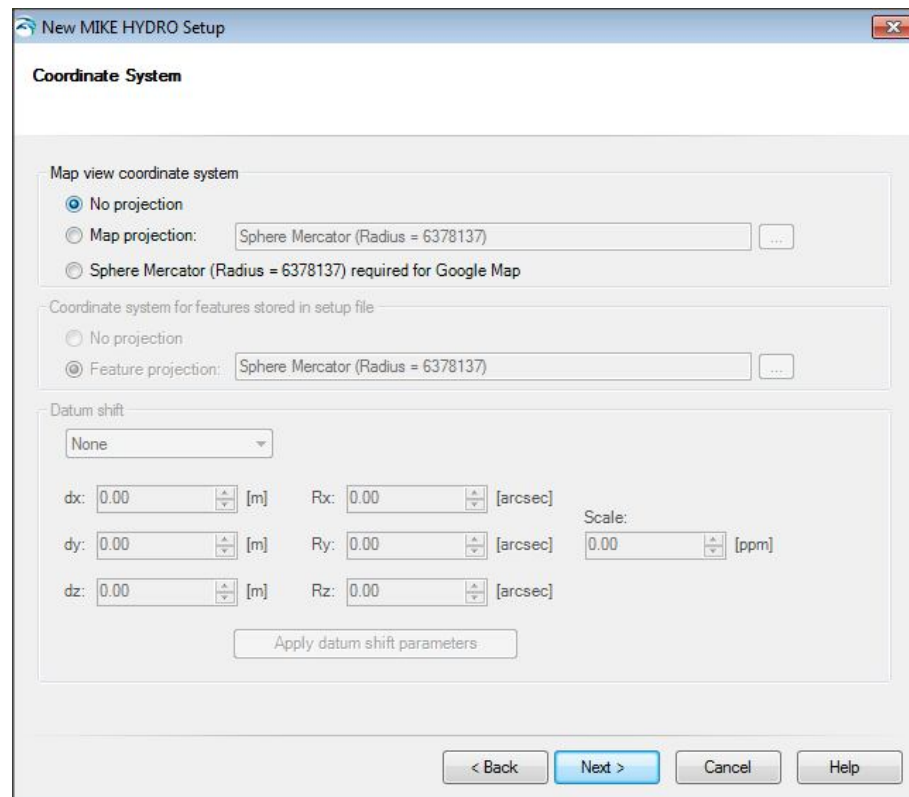

Figure 9: Coordinate system dialog
- **Coordinate System:** The Coordinate System dialog appears (Figure 9). It is recommended to reference the model setup geographically. A coordinate system can be selected for the map as well as for the features (e.g. catchments, branches, and nodes with different types). If two different coordinate systems are selected, the coordinates of the features are automatically converted into the selected map coordinate system when displayed in MIKE HYDRO. However, features are saved in their own coordinate system in input and result-files. Since this is a demo example, select 'No projection' and press the 'Next' button and move to the next step.